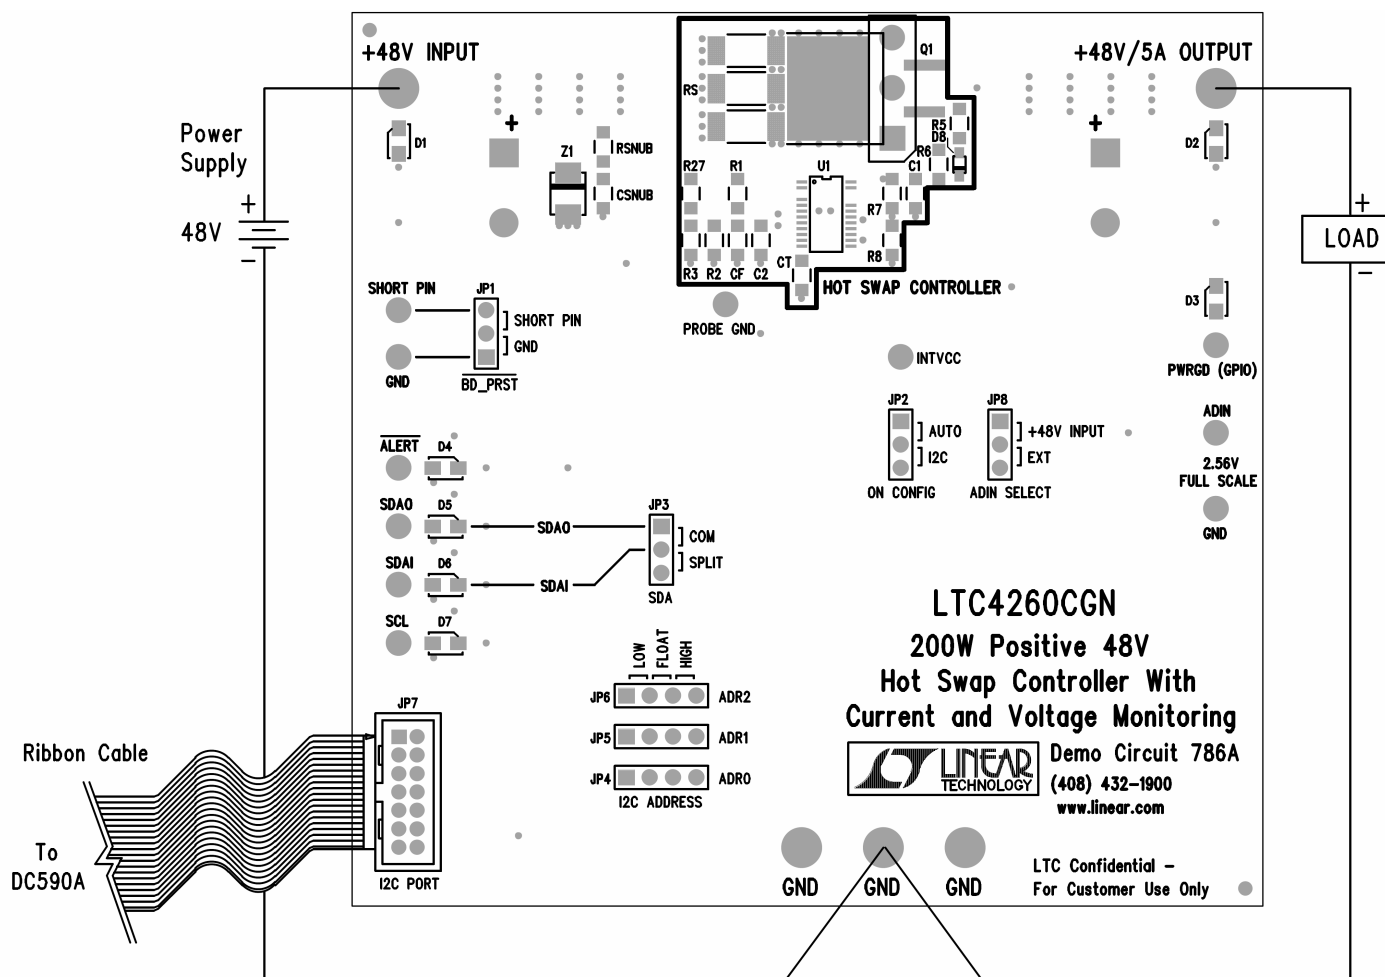

Figure 4. Proper Measurement Equipment Setup
2. With the power off connect the input supply to +48V INPUT and the output load as shown in Fig.4